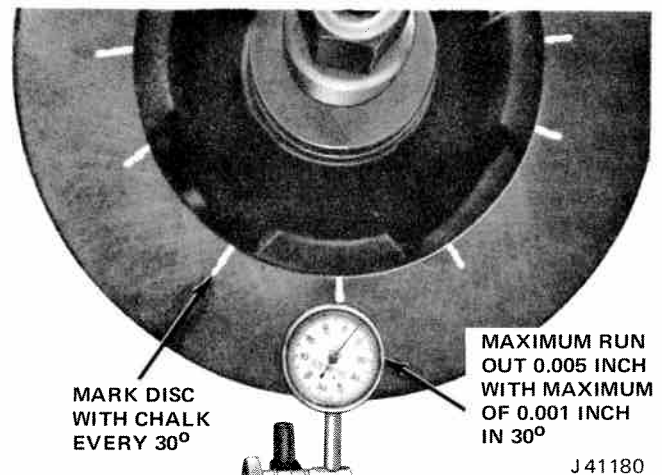

Fig. 9-53 Checking Lateral Runout
(4) **Lateral Runout.** Lateral runout must not exceed 0.005 inch (total). Dial indicator runout, with maximum rate of change not to exceed 0.001 inch in 30 degrees (fig. 9-53).